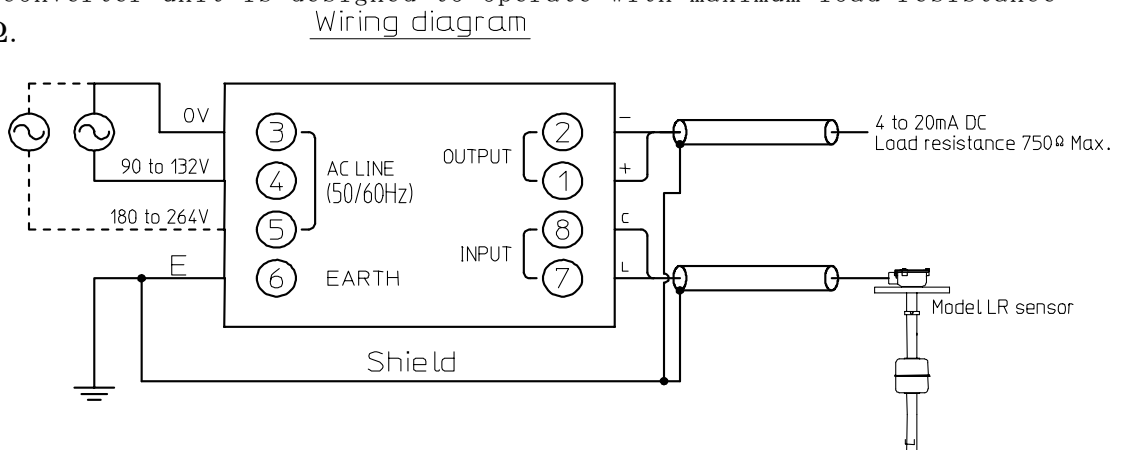

Fig. 12
- (1) Connect the cables to the terminals as shown in Fig. 12.